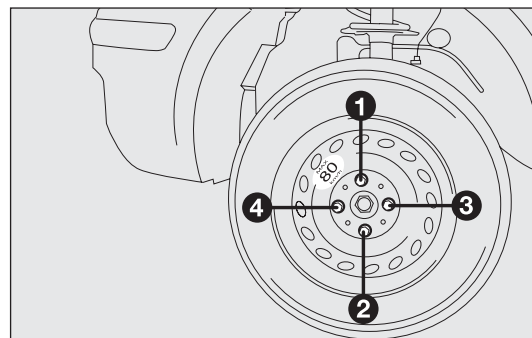

fig. 155
- ☐ use the wrench provided to fasten the bolts completely in a criss-cross fashion as per the order illustrated in fig. 155;